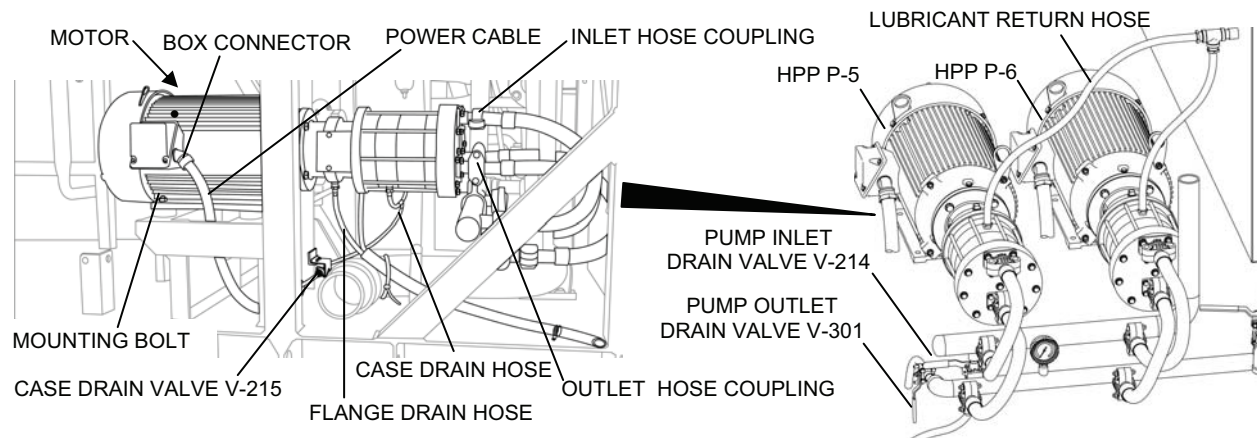

Figure 1. High Pressure Pump Assembly Removal.
2. Drain the high pressure pumps and the piping to the pumps as follows (see Figure 1):
3. Remove the high pressure pump assembly as follows (see Figure 1):
4. Install the high pressure pump assembly in the TWPS as follows (see Figure 1):